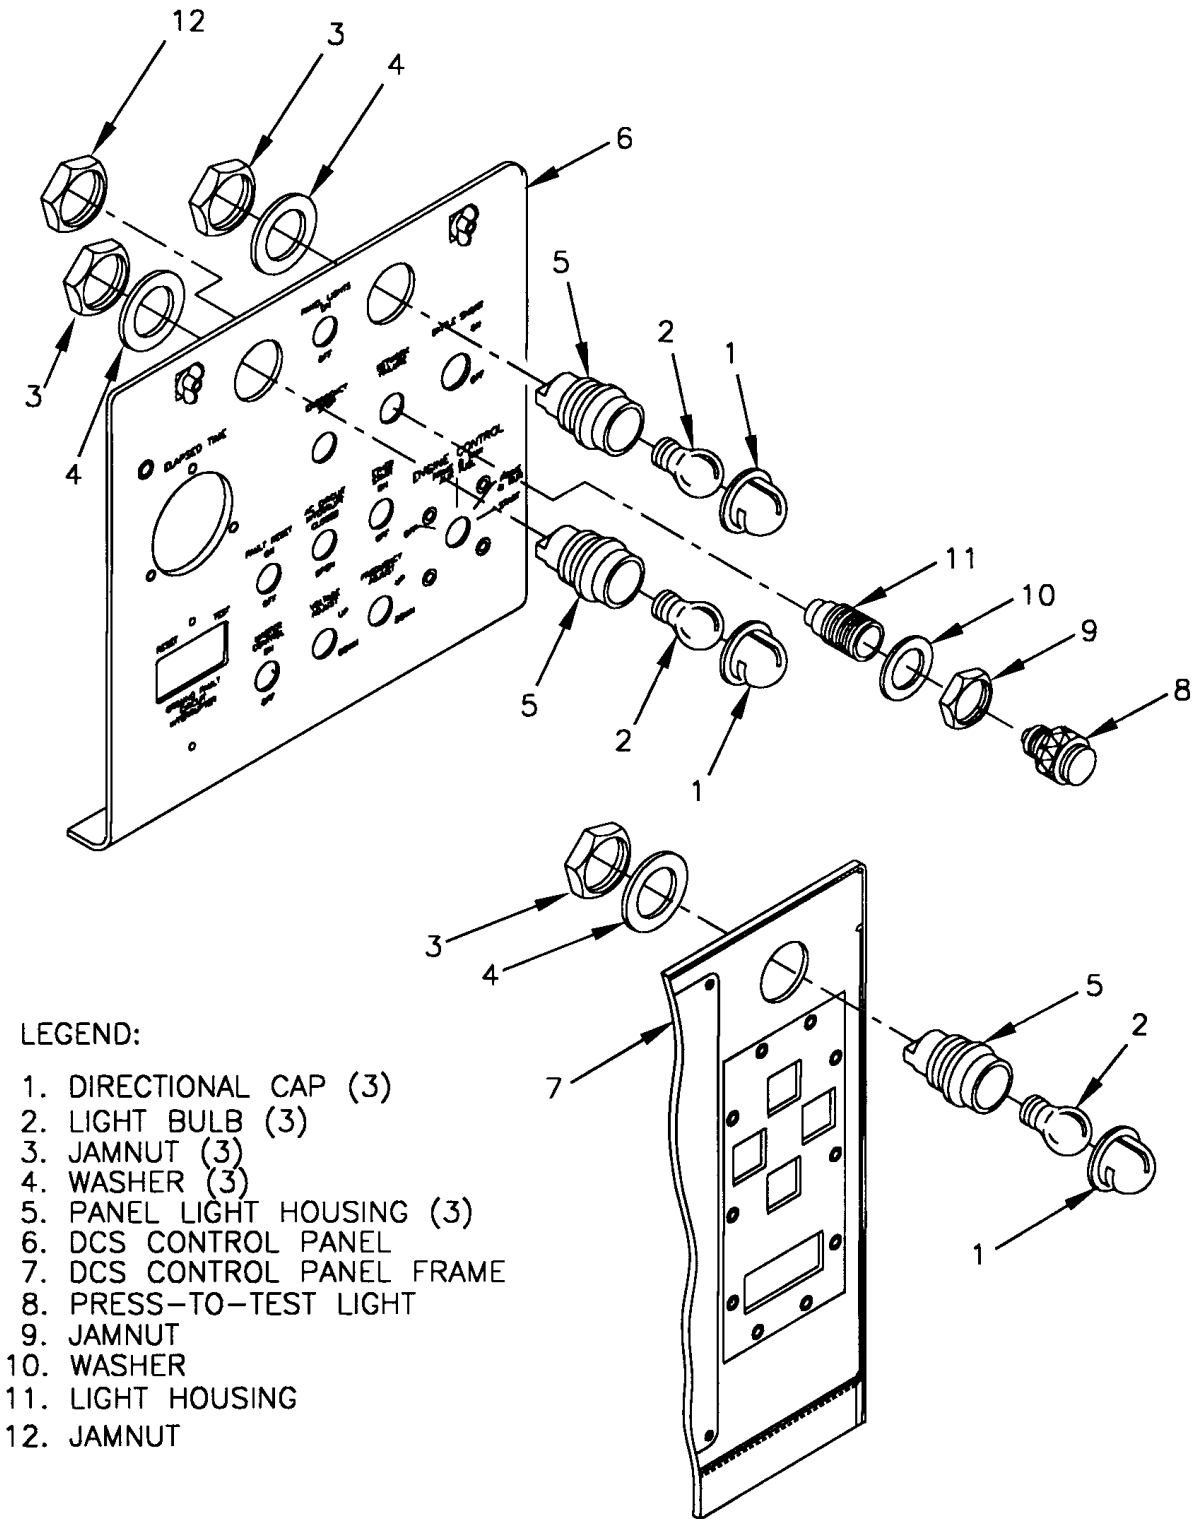

FIGURE 4-11. DCS CONTROL BOX PANEL LIGHTS DS1 THROUGH DS3 AND NETWORK FAILURE LIGHT DS5
- (1) Shut down generator set, paragraph 2.11.2.
- (2) Remove directional cap (1, Figure 4-11) from panel light housing (5).
- (3) Remove light bulb (2) from panel light housing (5).
- (4) Set multimeter to ohms, and check light bulb for continuity across base and threads. Multimeter should indicate continuity.
- (5) If multimeter does not indicate continuity, replace light bulb (2).
- (6) Inspect directional caps (1) for cracks, corrossions, stripped threads, and other damage.
- (7) Release DCS control panel by turning two fasteners, and lower panel slowly.
- (8) Inspect panel light housings (5) on DCS control panel (6) for cracks, corrosion, stripped threads, and other damage.
- (9) Install light bulb (2) in panel light housing (5).
- (10) Install directional cap (1) on panel light housing (5).
- (11) Raise and secure DCS control panel.
- (12) Remove DCS control box top panel, paragraph 4.7.2.
- (1) Remove directional cap (1, Figure 4-11) from panel light housing (5).
- (2) Remove light bulb (2) from panel light housing (5).
- (3) Install light bulb (2) in panel light housing (5).
- (4) Install directional cap (1) in panel light housing (5).
- (3) If defective panel light is on DCS control panel (6, Figure 4-11), release DCS control panel by turning two fasteners, and lower panel slowly.
- (4) If defective panel light is on DCS control panel frame (7), remove DCS control box top panel, paragraph 4.7.2.
- (5) Tag and disconnect panel light housing (5) electrical leads.
- (6) Remove jamnut (3), washer (4), and panel light housing (5) from DCS control panel (6) or DCS control panel frame (7).
- (7) Install panel light housing (5), washer (4), and jamnut (3) on DCS control panel frame (7) or DCS control panel (6).
- (8) Connect panel light housing (5) electrical leads. Remove tags.
- (9) If removed, install DCS control box top panel, paragraph 4.7.2.
- (10) If lowered, raise and secure DCS control panel.
- (11) Connect negative battery cable to battery, and close BATTERY ACCESS doors.
- (2) Release DCS control panel by turning two fasteners, and lower panel slowly.
- (3) Inspect light housing (11, Figure 4-11) for cracks, corrosion, evidence of shorting, and other damage.
- (4) Raise and secure DCS control panel.
- (1) Unscrew to remove press-to-test light (8, Figure 4-11) from light housing (11).
- (2) Screw press-to-test light (8) into light housing (11) to install.